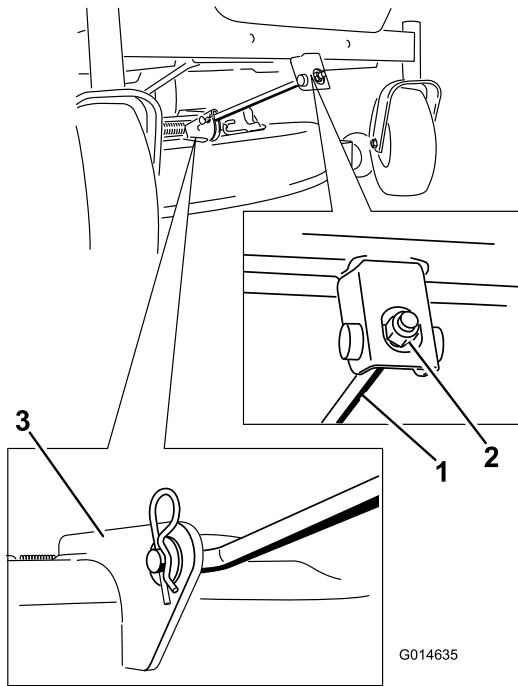

Figure 59
4. Remove the hairpin cotter from the front support rod and remove the rod from the deck bracket (Figure 59). Carefully lower the front of the mower deck to the ground.
- Attach the front support rod to the mower deck with the clevis pin and hairpin cotter (Figure 59).